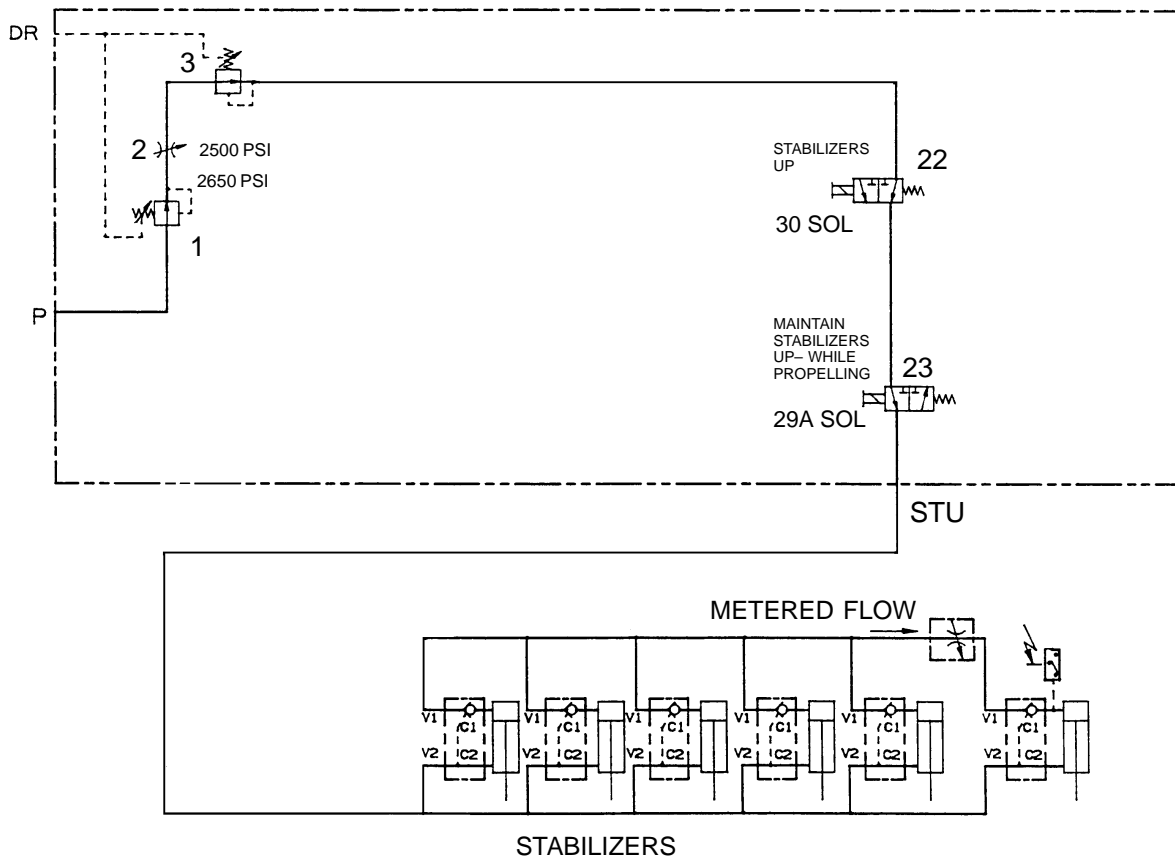

Figure 23
F. Service Manifold Assembly, Hydraulic (Figure 4 thru Figure 23)